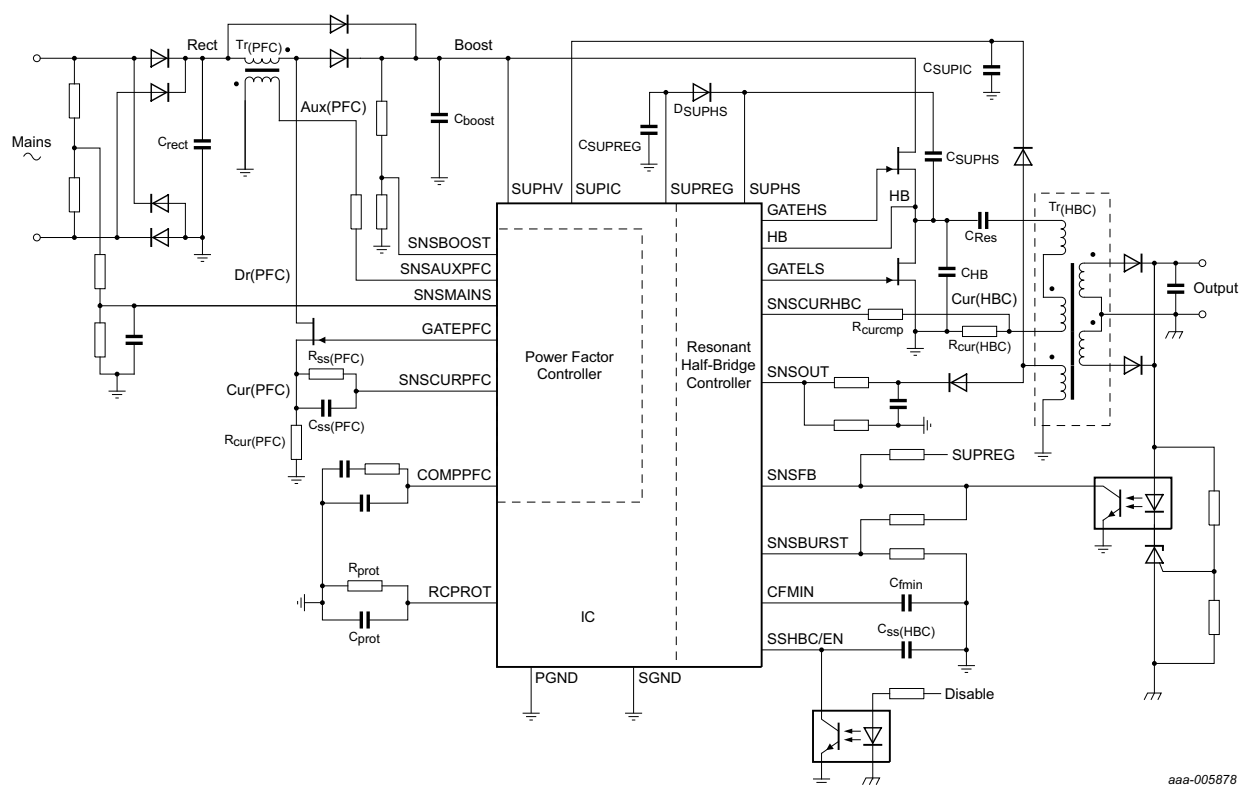

Fig 17. TEA1716T application diagram
- [3] For a typical application with a compensation network on the COMPPFC pin, like the example in Figure 17.